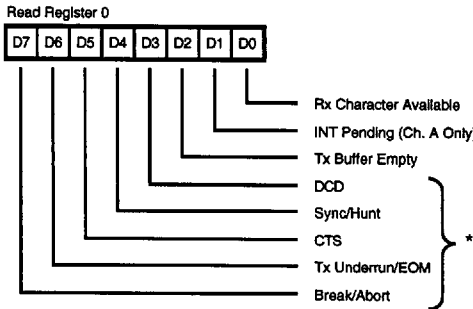

Figure 18a. SIO Read Register 0
**Read Registers.** The SIO Channel B contains three read registers while Channel A contains only two that are read to obtain status information. To read the contents of a register (rather than RRO), the program must first write a pointer to WRO in exactly the same manner as a write operation. The next I/O read cycle will place the contents of the selected read registers onto the data bus (Figure 18a, b, c).